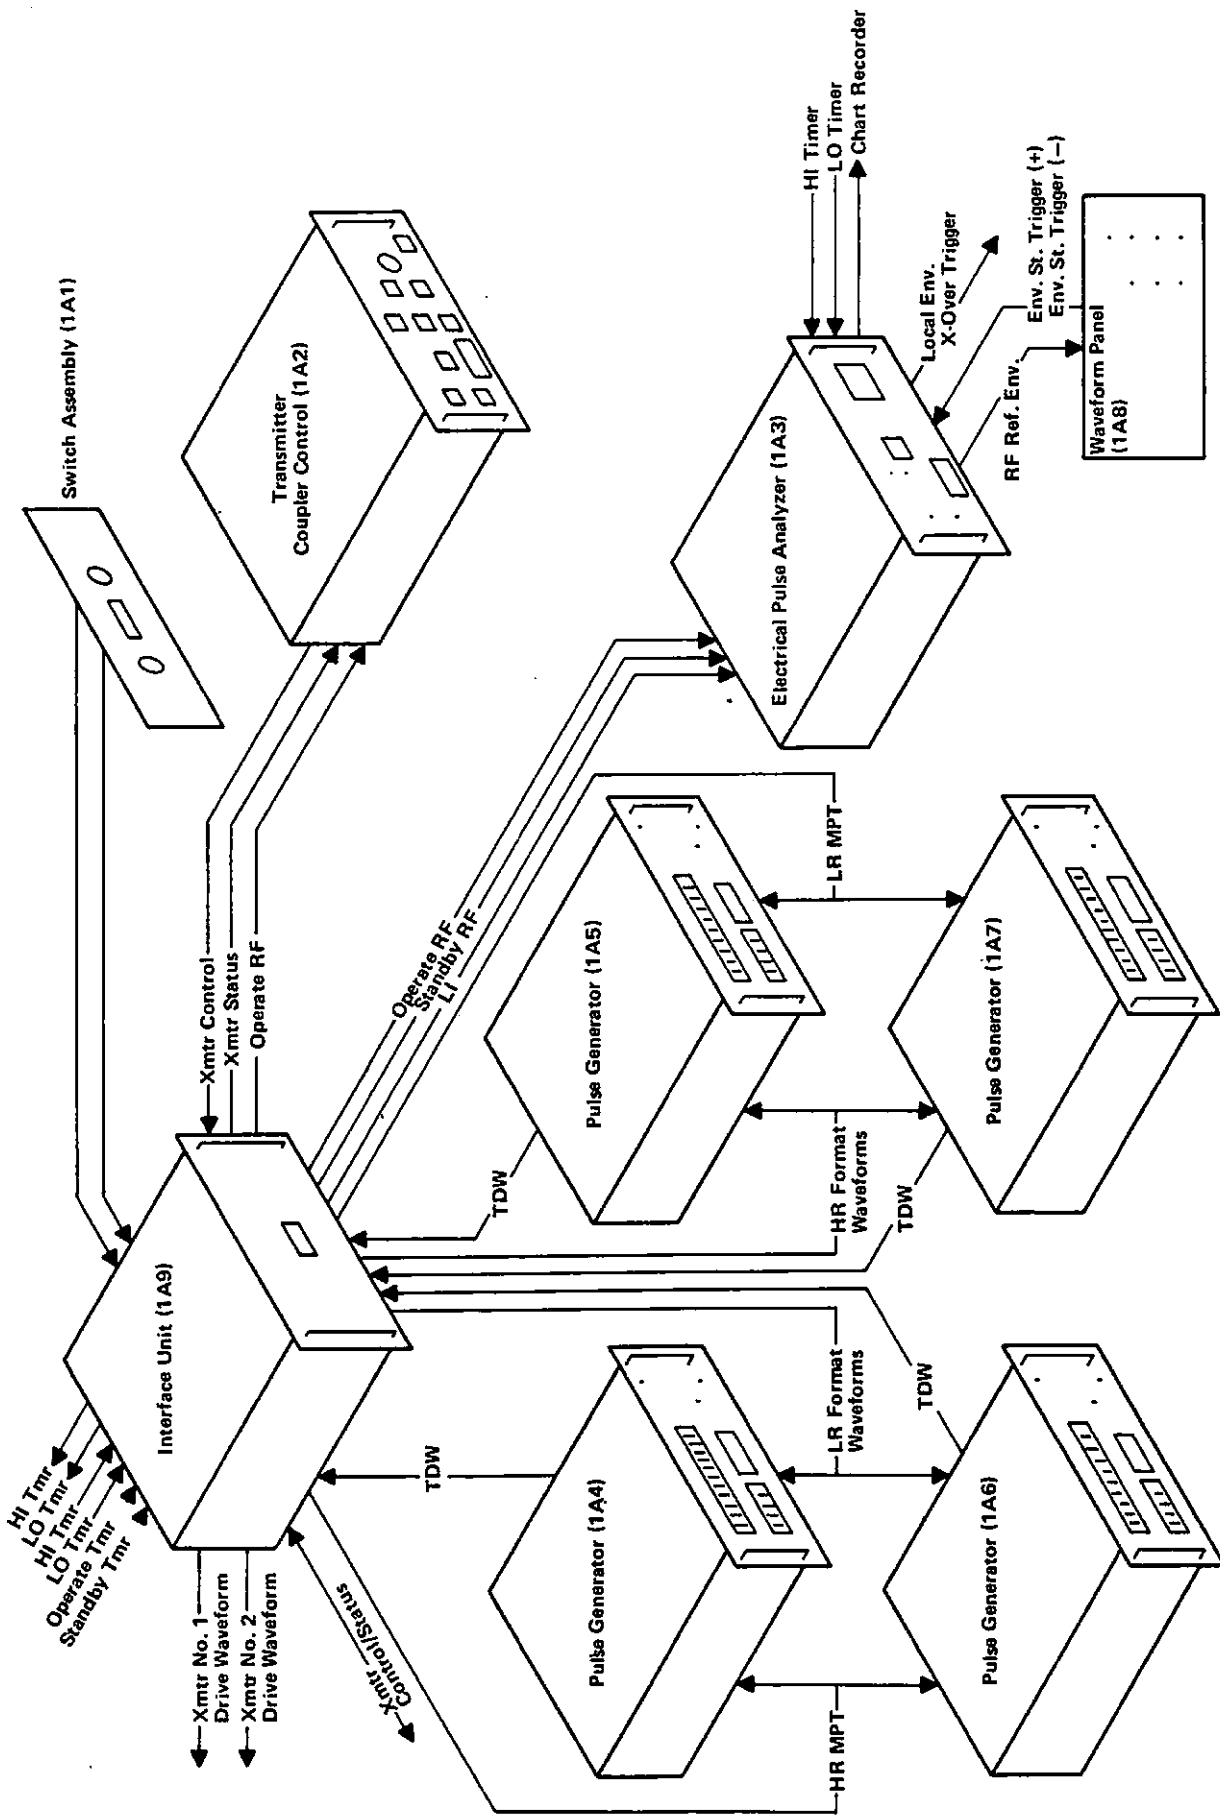

Figure 1.9. Interrelationship Of TCS Units
1.4 Reference Data. Table 1.1 lists the electrical power requirements of several units of the Transmitter Control Set. Tables 1.2 and 1.3 list the equipment supplied and the equipment required but not supplied, respectively. Figure 1.9 shows the relationships of all the units of the Transmitter Control Set.